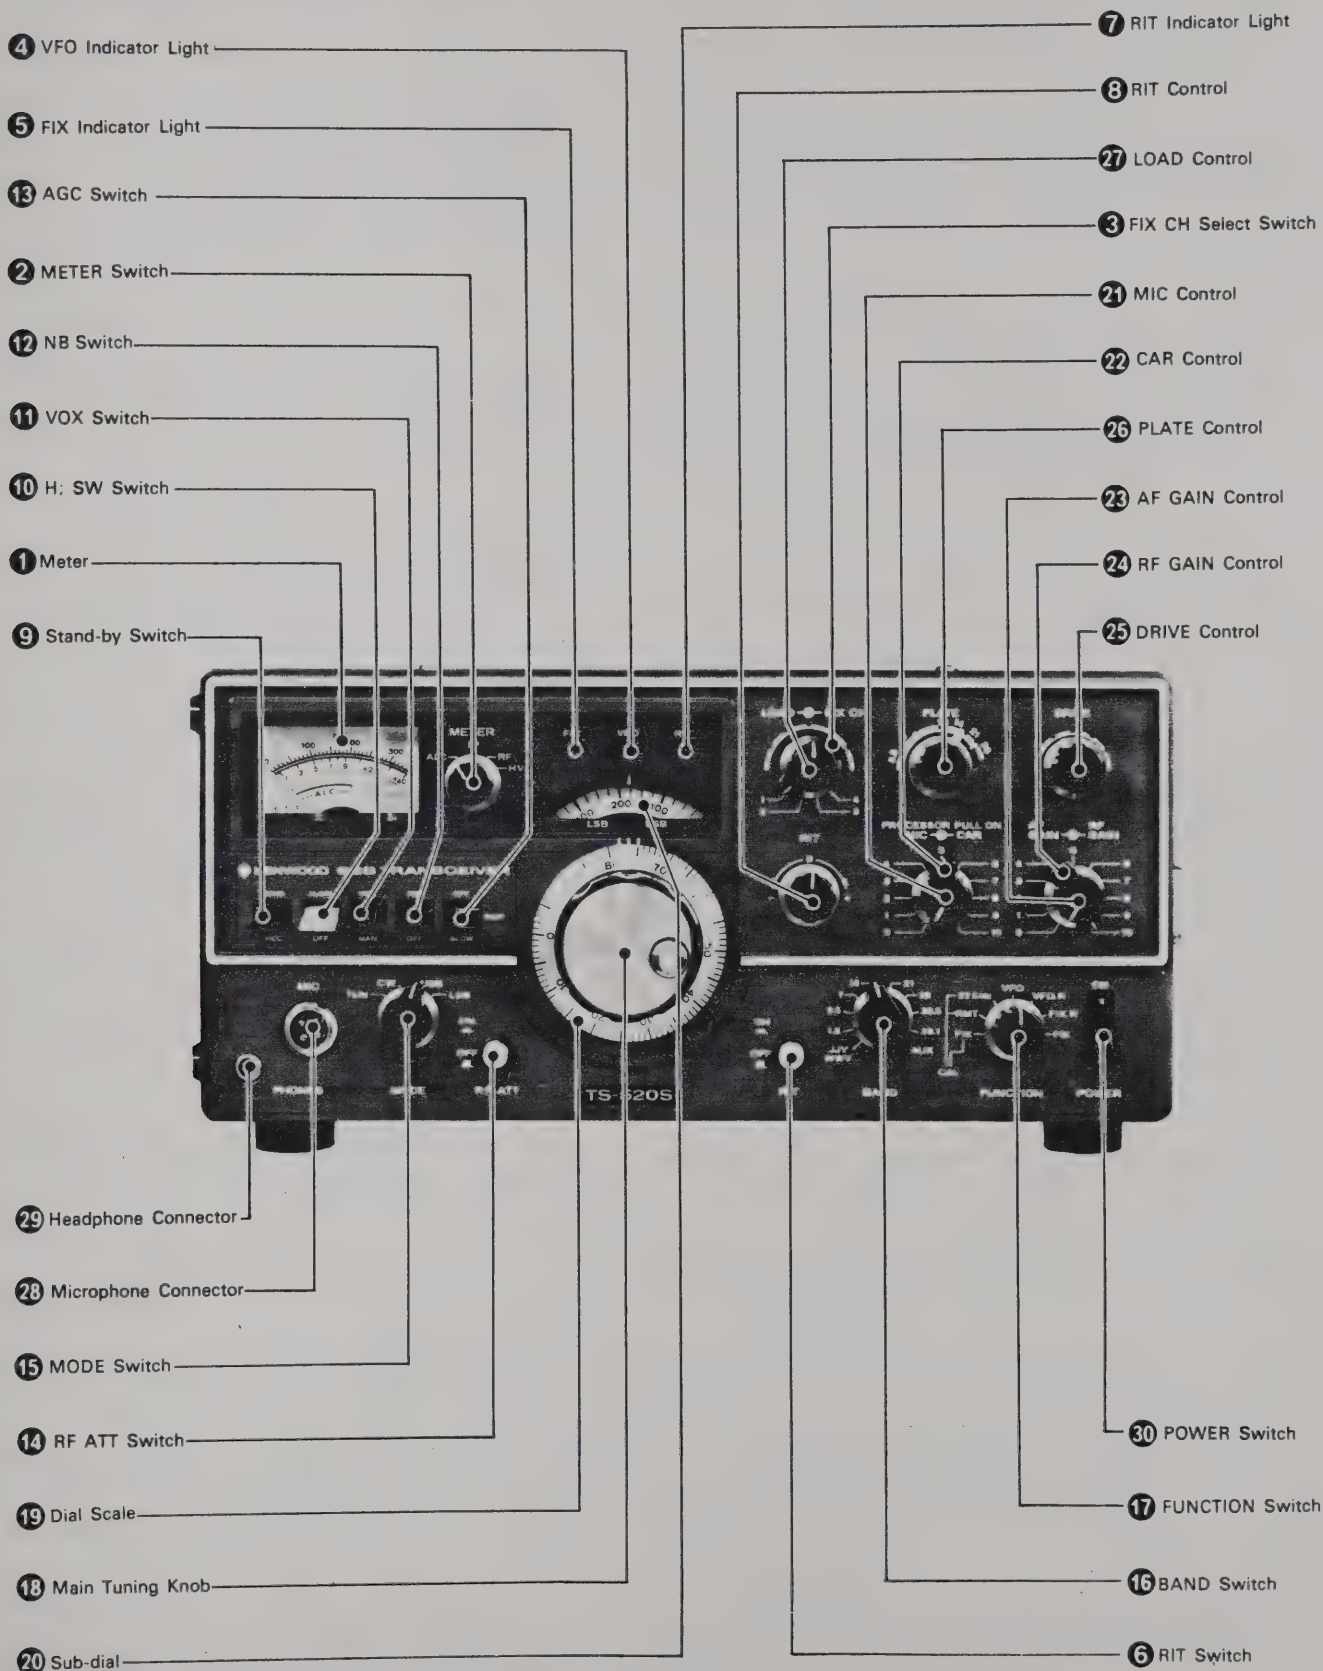

Fig. 5 Front Panel Controls
3.1 FRONT PANEL CONTROLS (See Figure 5)
■ METER (① on Figure 5)
■ METER SWITCH (② on Figure 5)
(③ on Figure 5)
■ VFO INDICATOR LIGHT (④ on Figure 5)
■ FIX (FIXED CHANNEL OPERATION) INDICATOR LIGHT (⑤ on Figure 5)
■ RIT SWITCH (⑥ on Figure 5)
■ RIT INDICATOR (⑦ on Figure 5)
■ RIT CONTROL (⑧ on Figure 5)
■ STAND-BY SWITCH (⑨ on Figure 5)
■ H. SW (Heater) SWITCH (⑩ on Figure 5)
■ VOX SWITCH (⑪ on Figure 5)
■ **NB SWITCH** (12 on Figure 5)
■ **AGC SWITCH** (13 on Figure 5)
■ **RF ATT SWITCH** (14 on Figure 5)
■ **MODE SWITCH** (15 on Figure 5)
■ **BAND SWITCH** (16 on Figure 5)
■ **FUNCTION SWITCH** (17 on Figure 5)
■ MAIN TUNING KNOB (18 on Figure 5)
■ DIAL SCALE (19 on Figure 5)
■ SUB-DIAL (20 on Figure 5)
■ MIC CONTROL (PROCESSOR PULL ON) (21 on Figure 5)
■ CAR CONTROL (22 on Figure 5)
■ AF GAIN CONTROL (23 on Figure 5)
■ RF GAIN CONTROL (24 on Figure 5)
■ DRIVE CONTROL (25 on Figure 5)
■ PLATE CONTROL (26 on Figure 5)
■ LOAD CONTROL (27 on Figure 5)
■ MIC CONNECTOR (28 on Figure 5)
■ PHONES JACK (29 on Figure 5)